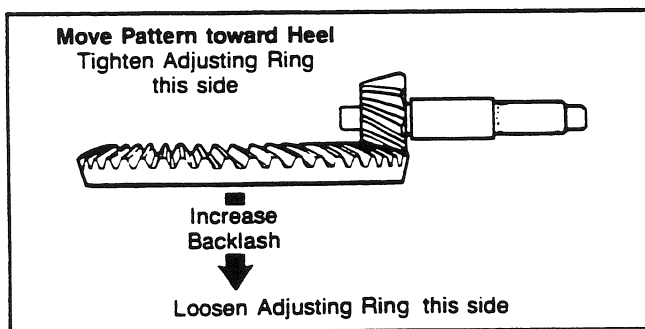

Fig. 87
- b) Increase backlash to move the tooth contact patterns toward the heel of the ring gear teeth (see Fig. 87).